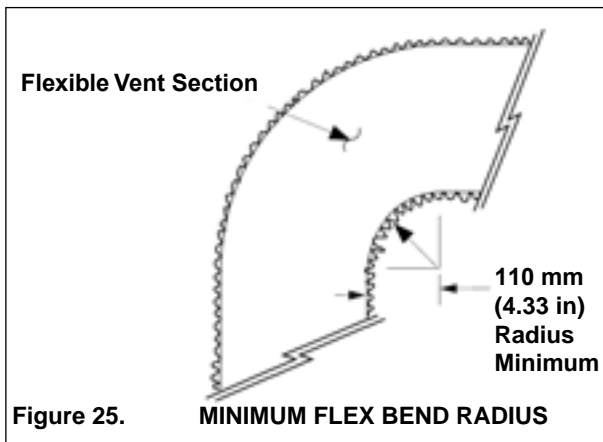

Figure 25.
*Minimum vent length is 0.34M (1 ft.) or in accordance with vent manufacturer's instruction, and local and national codes. Horizontal vents 1 m (3 in) or less in length do not require a condensate tee, but must slope down toward the outlet at 2 cm to the meter (1/4 in / ft.) to allow condensate to drain. ** Radius minimum to be 110 mm (4.33 in) as shown in Figure 25.